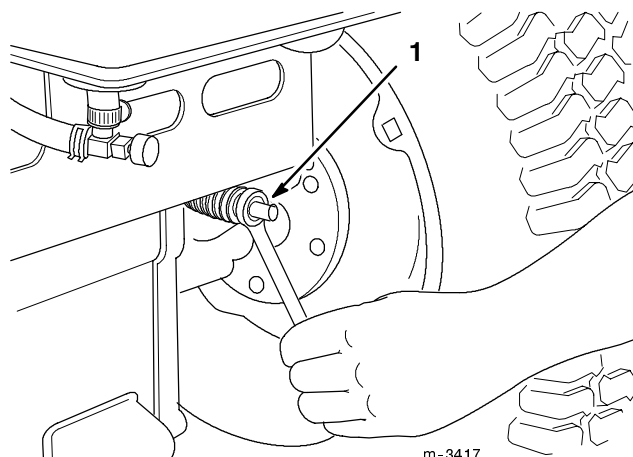

Figure 35
The brake adjustment is behind the left side cover (Fig. 35). If the parking brake does not hold securely, an adjustment is required.
4. Turn the brake adjustment nut (Fig. 35) until there is 2" (51 mm) of free travel.